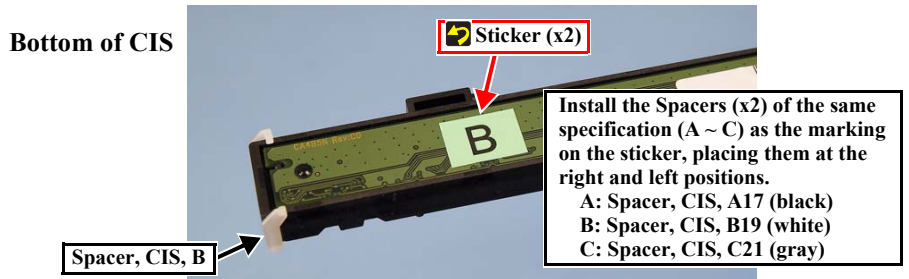

Figure 4-42. Installing Spacers CIS
- When replacing the CIS Unit, check the sticker on the Bottom Board, and use the Spacers (x2) of the same specification (A ~ C) as the marking on the sticker, placing them at the right and left positions. (Fig. 4-42)